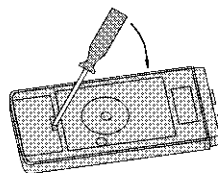

Figure 7.1: Open the Battery Compartment Cover
2. Place the instrument with the back side facing up on a table. To open the battery compartment cover, insert the tip of a screwdriver into the slotted recess of the battery compartment cover and carefully push the screwdriver down (see figure 7.1). The cover will lift up on the side with the recess.